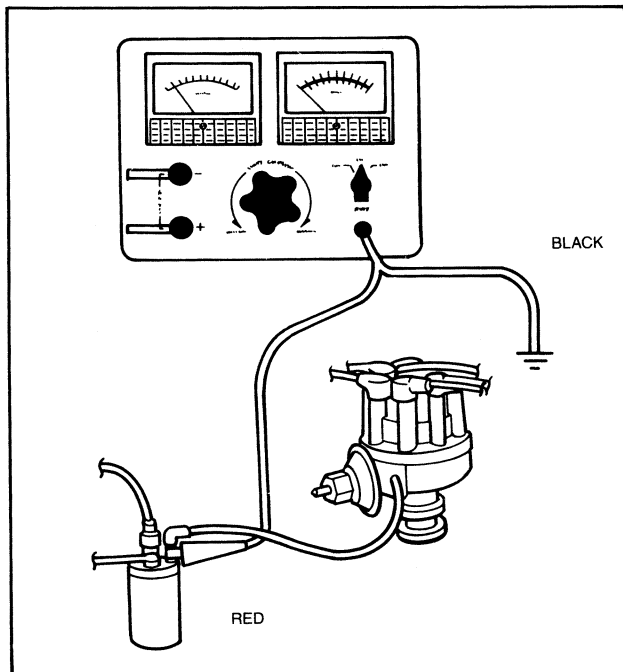

FIG. 6 Coil to Ground Test
1. Connect the voltmeter leads as shown in Figure 6.